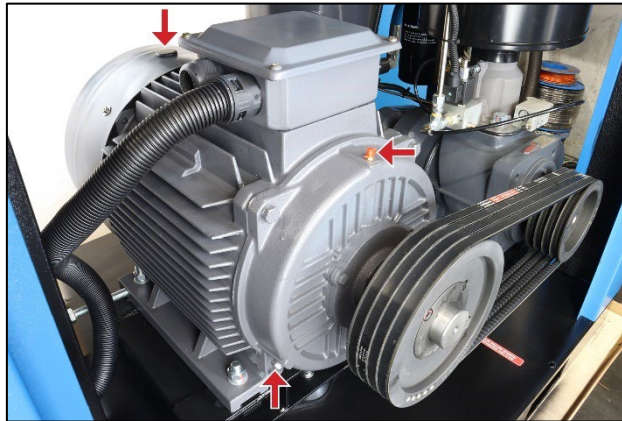

Figure 9 Motor Bearing Re-Greasing (NDE grease drain not shown)
- a. Locate the grease nipple on top of each DE and NDE bearing and also the grease drain plugs underneath (that may be offset to one side). Refer to Figure 9. It is often necessary to temporarily remove the motor fan cowl on the non-drive end to access these points.